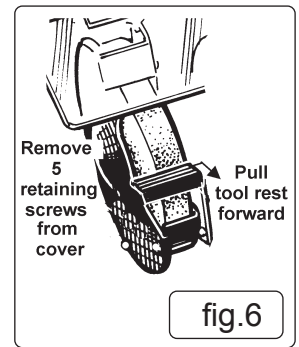

fig.6
- 5.2.2. Loosen and pull the tool rest out as far as possible, but, **DO NOT** remove it (fig 6).
- 5.2.3. Remove the screws from the side of the wheel cover and remove the cover (fig 6).